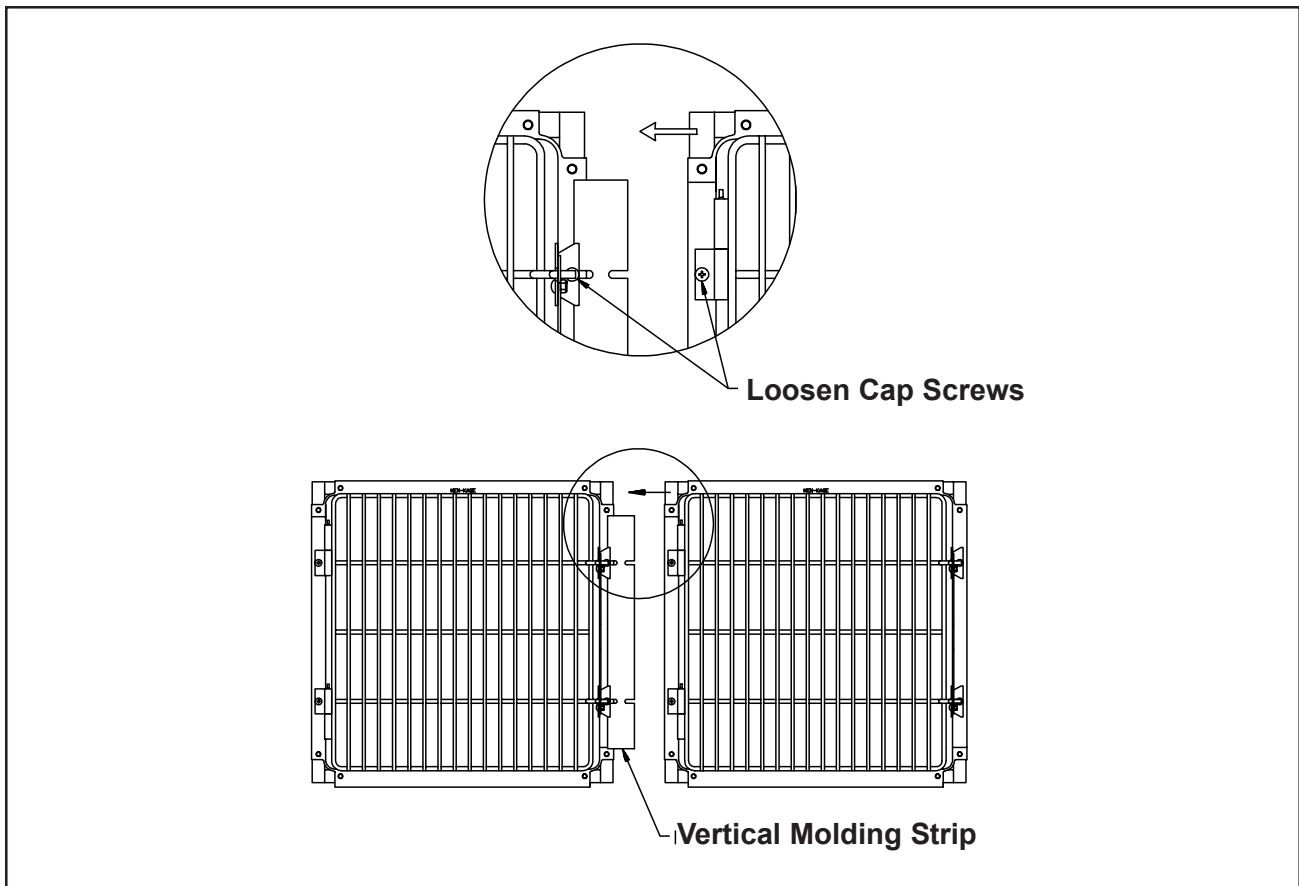

Figure 26. Installing a Vertical Molding Strip
- *Vertical Molding Strips - Page 14* (Also, refer to the installation drawing in Figure 26.)